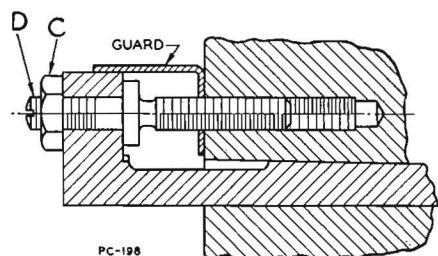

FIGURE 7
**Adjusting the Gibs.** Two types of gibs, shown in Figs. 7 and 8, are used to take up wear between sliding units of these machines. The amount and method of adjustment, however, is the same for each type.
To adjust a gib of the type shown in Fig. 7, proceed as follows:
1. After removing lead screw as explained, remove table gib. This is a headed type of gib as shown in Figure 7, page 8.